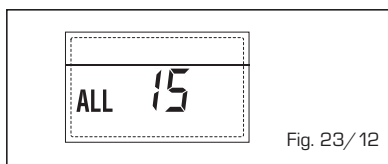

Fig. 23/12
- **ANOMALÍA SONDA EXTERNA "PARRAPEANT"** (fig. 23/13)